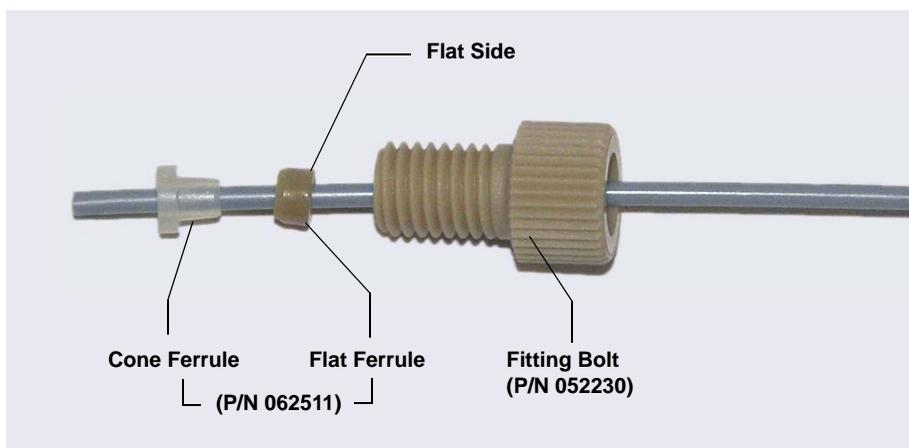

Figure B-30. Fitting for Sample Transfer Line (Pull Mode)
- a. Use the 1/16 in flangeless fitting bolt and two-piece ferrule for the connection. Slide the fitting bolt onto the tubing as shown in Figure B-30.
- c. With the flat side of the small tan ferrule facing toward the fitting bolt, slide the ferrule onto the tubing. Then, slide the clear cone ferrule onto the tubing with the cone toward the flat ferrule and fitting bolt (see Figure B-30).